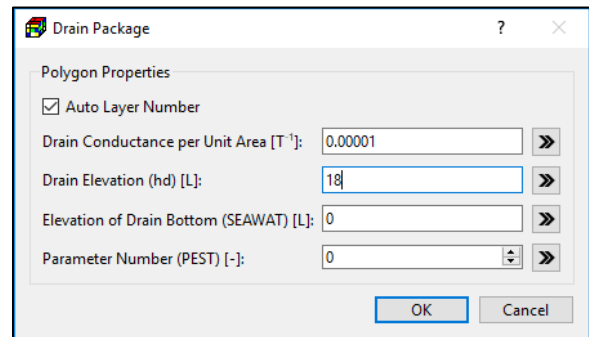

Figure 26. The Drain Package dialog box
- Most polygon data-entry dialog boxes include » buttons next to data entry fields. Figure 26, for example, shows the Drain Package dialog box with these buttons. Clicking the button next to a parameter replaces the data of cells located within the polygon with that parameter value.